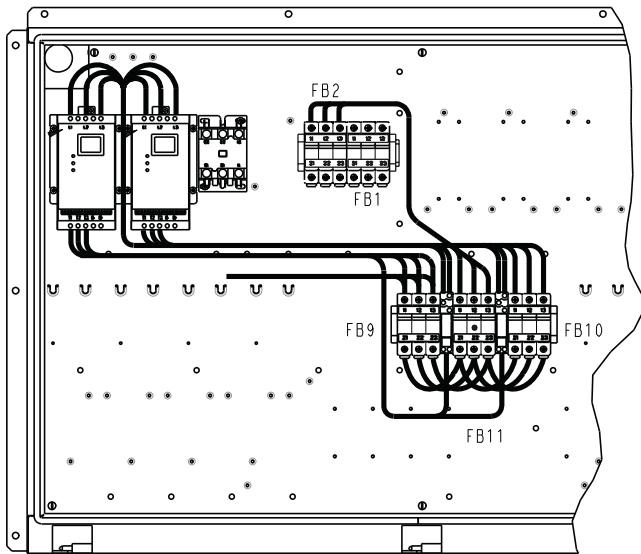

Fig. 20 — Motormaster® V Installation Location — 38APD070-100 Units (High SCCR Unit Shown)
3. Mount Motormaster V controller (Item 25) in location where FC1 was mounted, using 4 AL80AU170 screws (Item 9) provided. Repeat for FC2 (sizes 070,090,100) or FC4 (size 080). See Fig. 20.